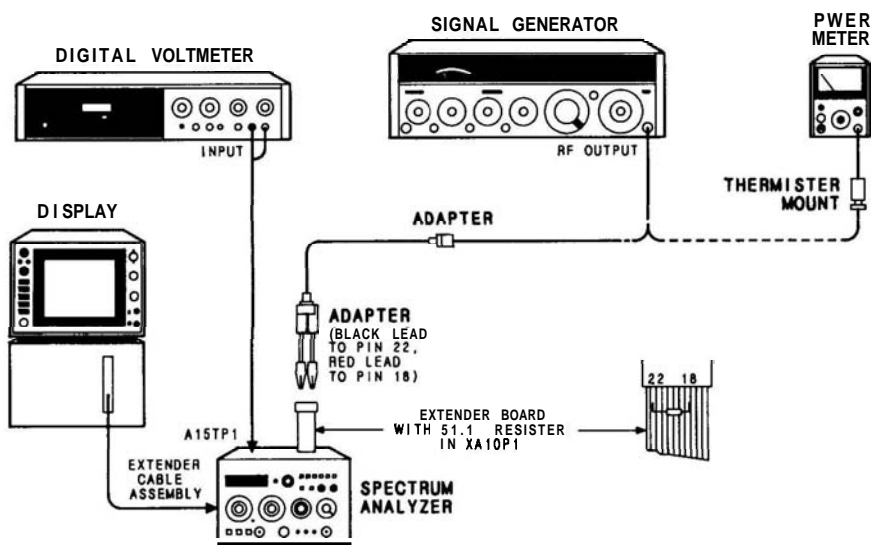

FIGURE 5-9. RF GAIN ADJUSTMENT TEST SETUP
- 2. Connect equipment as shown in Figure 5-9. Resistor on extender board should be toward rear of HP 8559A.